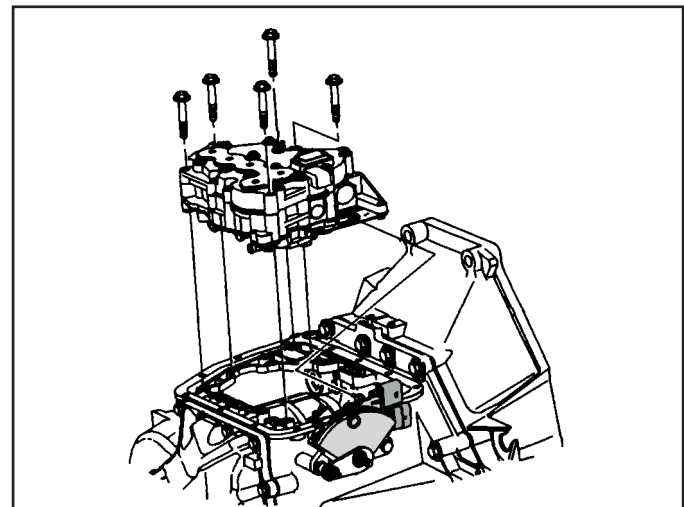

Figure 63
10. Once the retaining bolts have been removed, lift the valve body assembly from the case (See Figure 63).